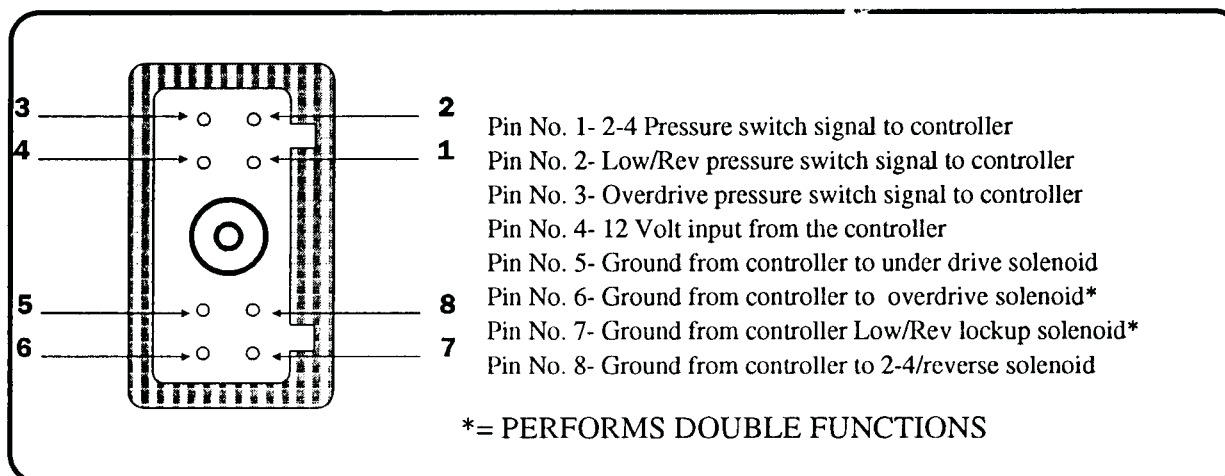

Figure 2
**SOLENOID CHECK** - All four solenoids should have 1.5 ohms resistance. Refer to figure 2 for pin locations.
**RESISTOR CHECK** - All three resistors should have 270 - 330 ohms of resistance. Refer to figure 2 for pin locations.